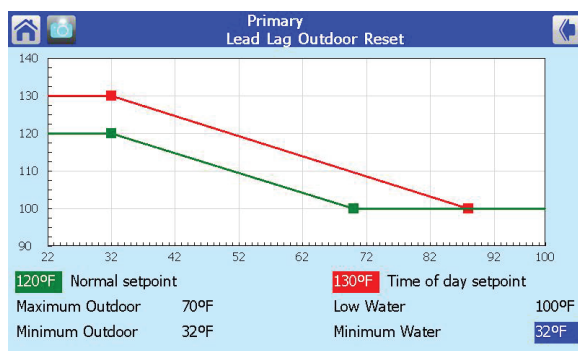

Fig. 87 – Outdoor Reset Display
9. The Show Line button at the bottom of the screen displays a curve which shows how the system will behave at different outdoor temperatures. See Fig. 87. (This screen is also explained in the section on "About Outdoor Reset.")